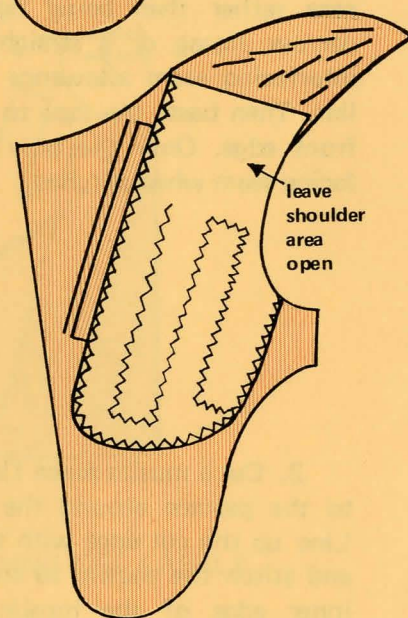

Fig. 12. Hold layers together by several rows of stitching
5. Make several widely spaced rows of stitches to hold the layers. The rows may be 3" to 4" apart. These may be wide zigzag, long machine stitches or diagonal hand basting stitches. Follow the straight of grain and leave the portion through the shoulder area unstitched (Fig. 12).